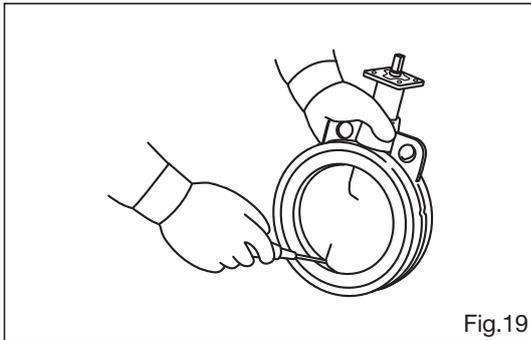

Fig.19
Air may remains inside the pipings by wear of or damage to the seat-ring. In case of this, the stem ④ & ⑤ may jump out from the valve. To avert this, release the cover bolts ⑬ slightly to make sure no air remains inside the pipings. If air remains, discharge air by inserting a regular screwdriver with a round tip between the seat-ring ③ and the upper & lower part of the disc ②. (Fig.19)